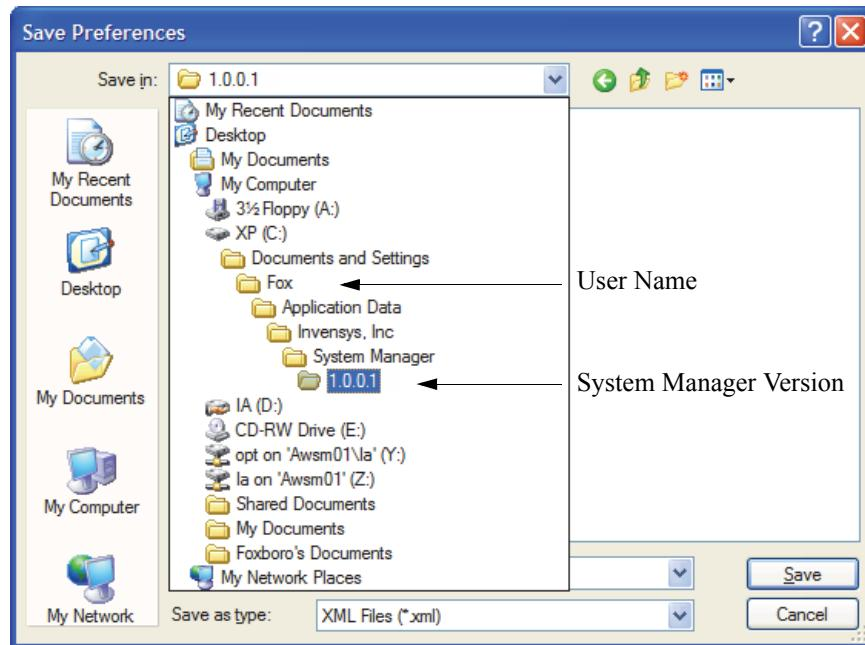

Figure 2-13. Save Preferences Dialog Box
1. Choose **File > Save Preferences** from the main menu to open the Save Preferences dialog box (Figure 2-13).
Figure 2-13 shows the default path for preferences files, the Applications Data folder in the user's Documents and Settings. Note that the two variable elements in this path are the user name and the version number.